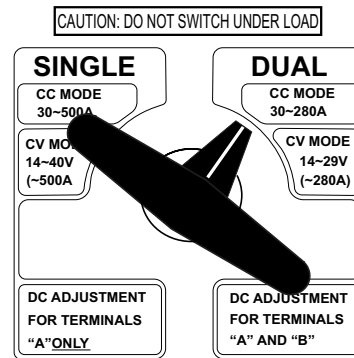

Figure 45. Single-Dual Selector Switch (Dual Position)
1. Place the welding mode selector switch (Figure 45) in the **dual** mode position. Select CC mode 30-280A.